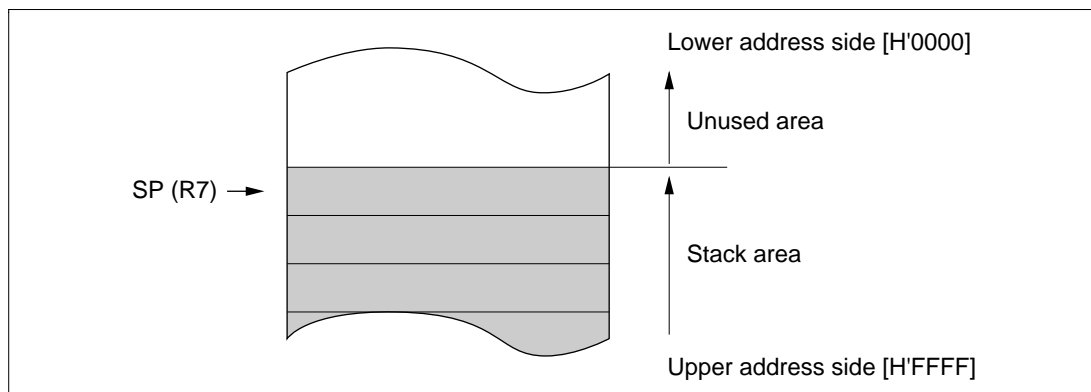

Figure 2.2 Stack Pointer
R7 also functions as the stack pointer (SP), used implicitly by hardware in exception processing and subroutine calls. When it functions as the stack pointer, as indicated in figure 2.2, SP (R7) points to the top of the stack.